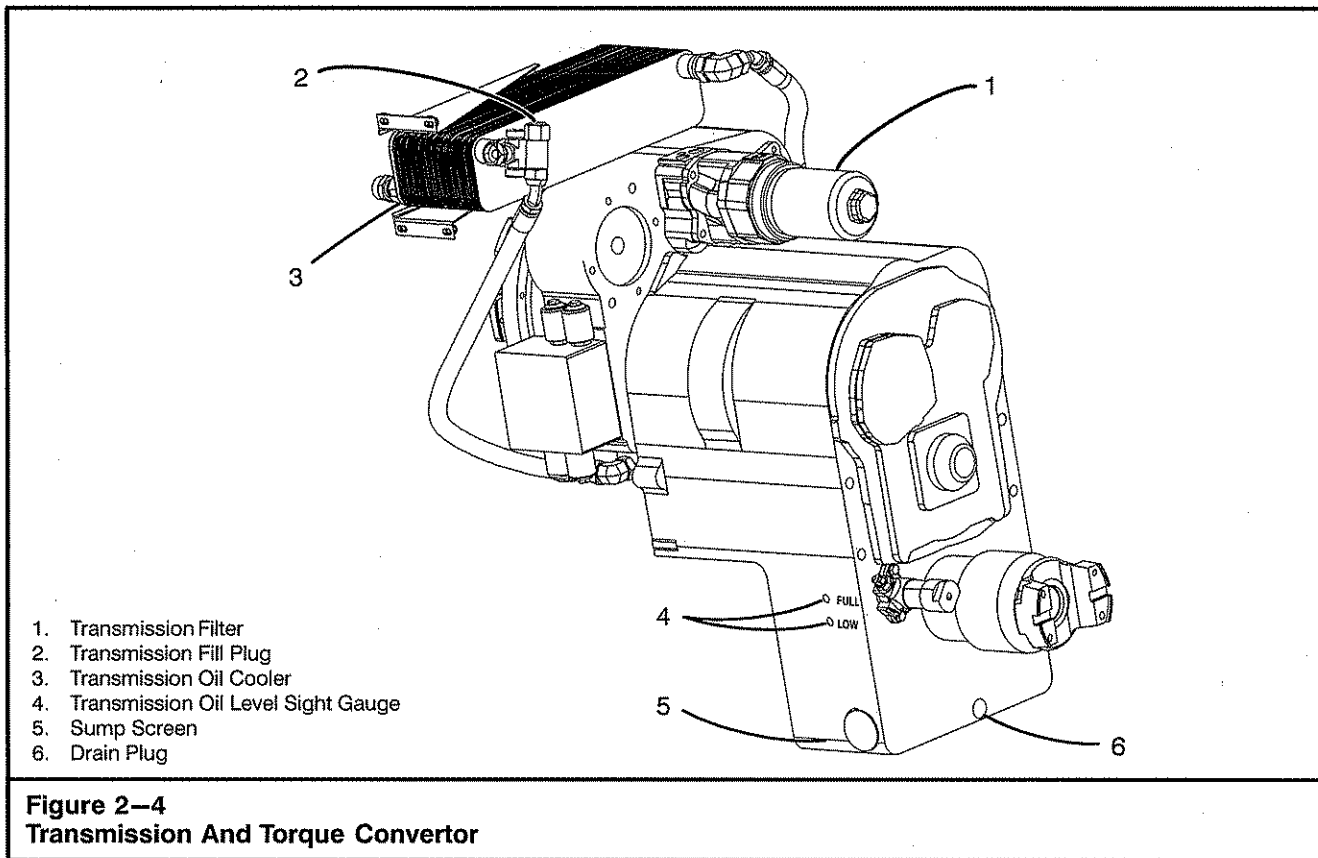

Figure 2-4
3. Locate the transmission oil level sight gauges located on the left side of the transmission. Refer to Figure 2-4.
Change the transmission oil filters after the first 50 and 100 hours of operation and every 500 hours of operation thereafter. The transmission oil filter is mounted on the transmission. Refer to Figure 2-4.
3. Clean the area around the drain plug and sump screen. Refer to Figure 2-4.